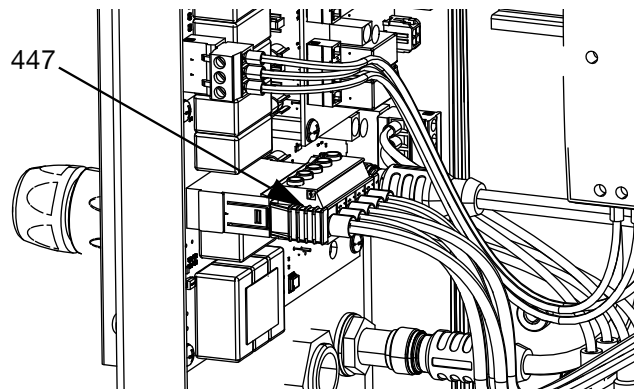

FIG. 17
- Connect the CAN cable included with the Expansion Module to Bulkhead 2 (B2) in AMZ 1 in the Heat Control Box (S).
- Connect the wiring harness (479) from the Expansion Module to AMZ1 as shown in FIG. 17.